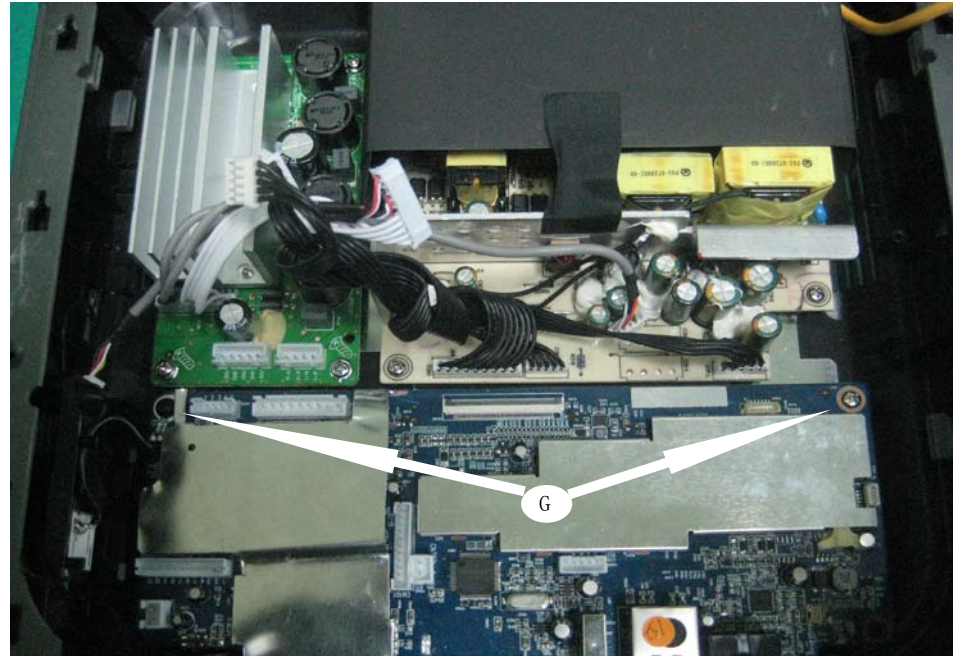

Figure 11
- 1) Loosen 2 screws "G" (S1 x 2) to detach Net Main Board shown in figure 11.